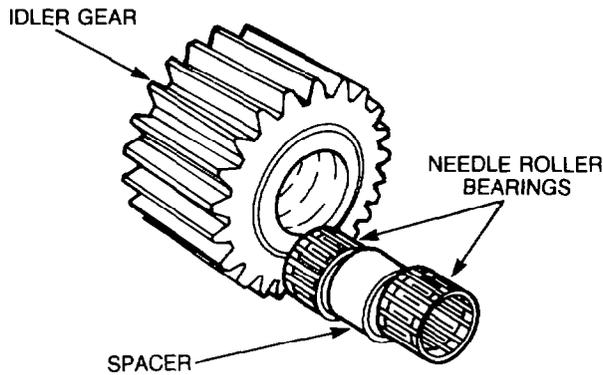

Figure 180 — Idler Gear, Bearings and Spacer
- k. Install new needle roller bearings, together with a new spacer (see Fig. 180), in the lower reverse idler gear, then lubricate the gear and bearings with trans-